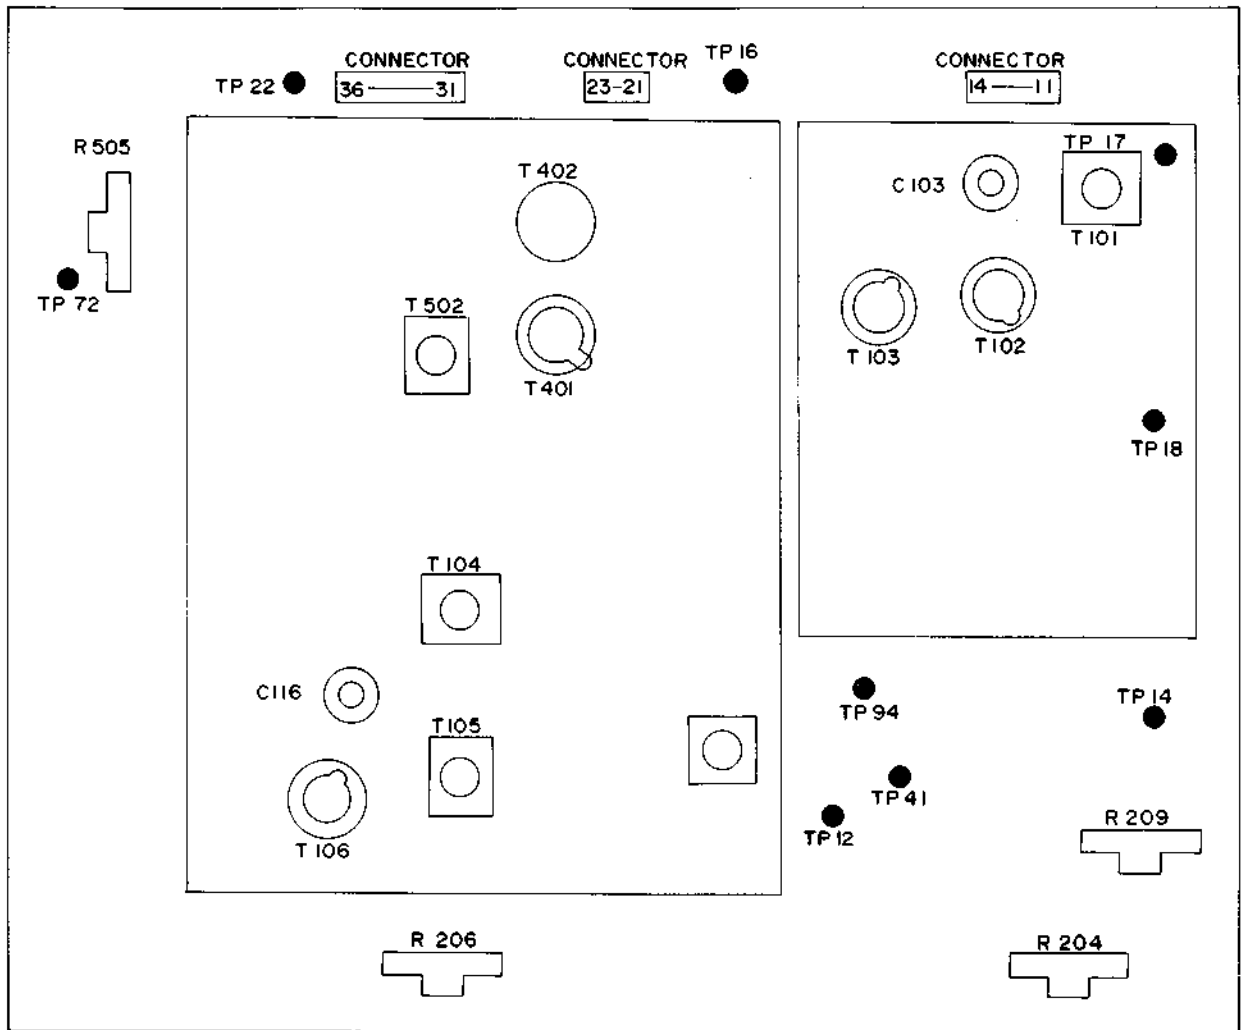

Fig. 6-63 Tuner amplifier printed circuit board
4. Connect the sweeper probe to the tuner TP and the ground lead to the bracket as shown in Fig. 6-63.